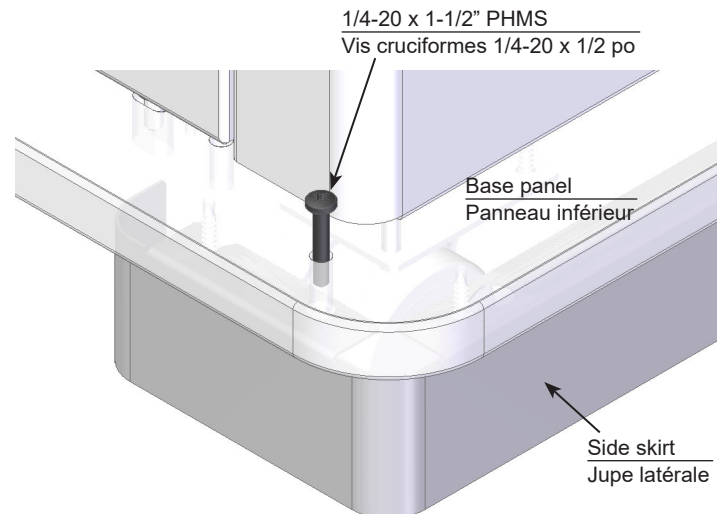

Figure 1.3
1. With the side skirt and base holes aligned, install a 1/4-20 x 1-1/2" PHM screw through the top of the base to secure each side skirt. **Figure 1.3.** Starting the screw by hand will help locate the threaded hole in the skirt.